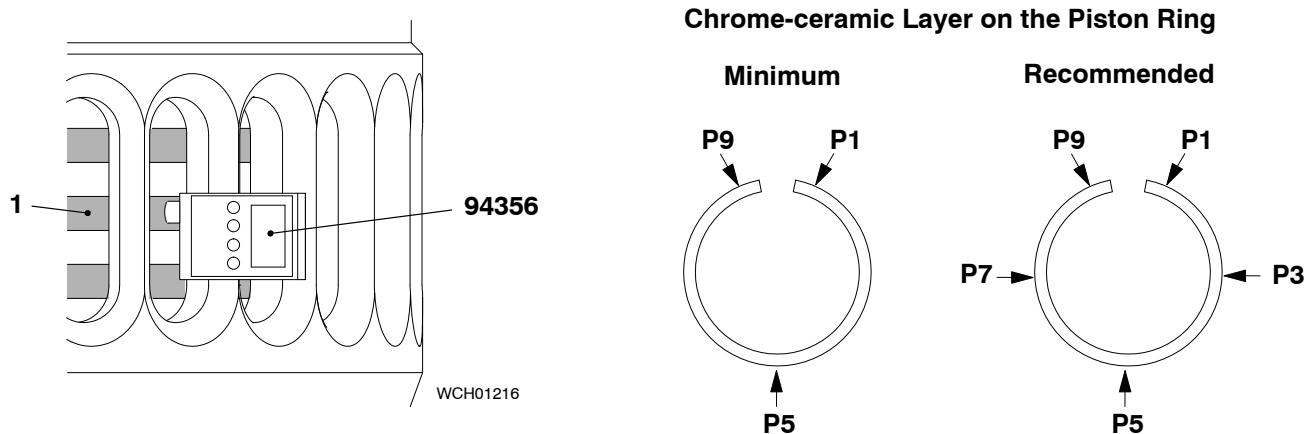

Fig. 1
- 4) Clean the surface of the piston ring (1, Fig. 1) at the locations P1 to P9.
- 5) Put the sensor of the Permascope MP0 (94356) against the middle of the piston ring (1).